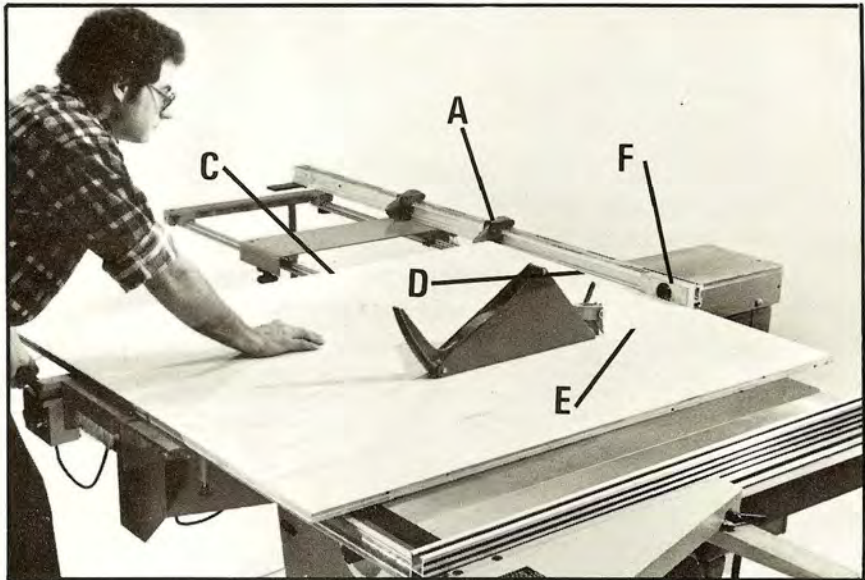

Fig. 51
3. With edge (C) Fig. 51, against stop finger (A) and edge (D) which was cut in STEP 2, against fence, cut the finished width on edge (E) as shown.
When the chipbreaker (F) Fig. 51, needs replacing, care must be taken that the replacement chipbreaker is the same thickness as the used one.